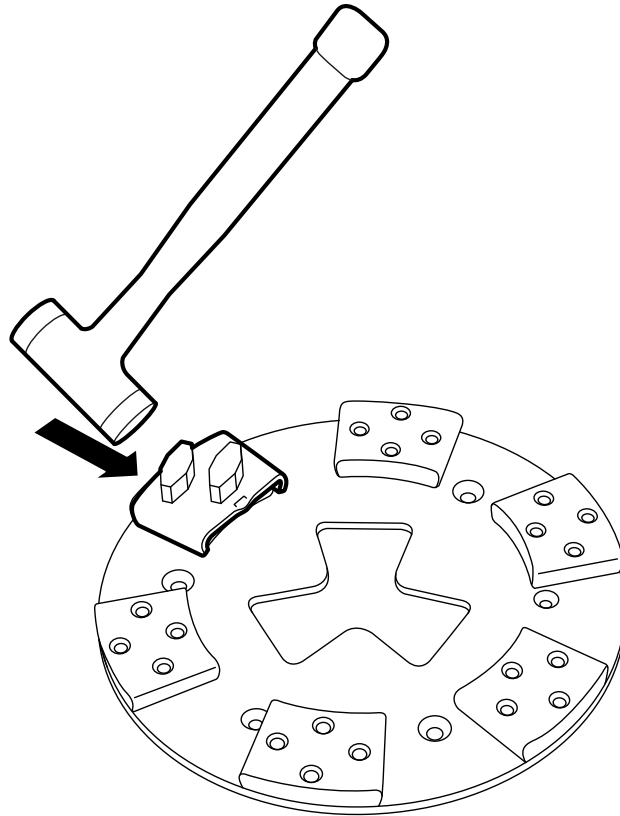

Figure 4-3 Removing grinding tools
1. Remove the grinding tool by giving it a few light taps with a rubber hammer so the locking mechanism releases, see Figure 4-3 on page 23. Then draw the tool up out of the guide slot.